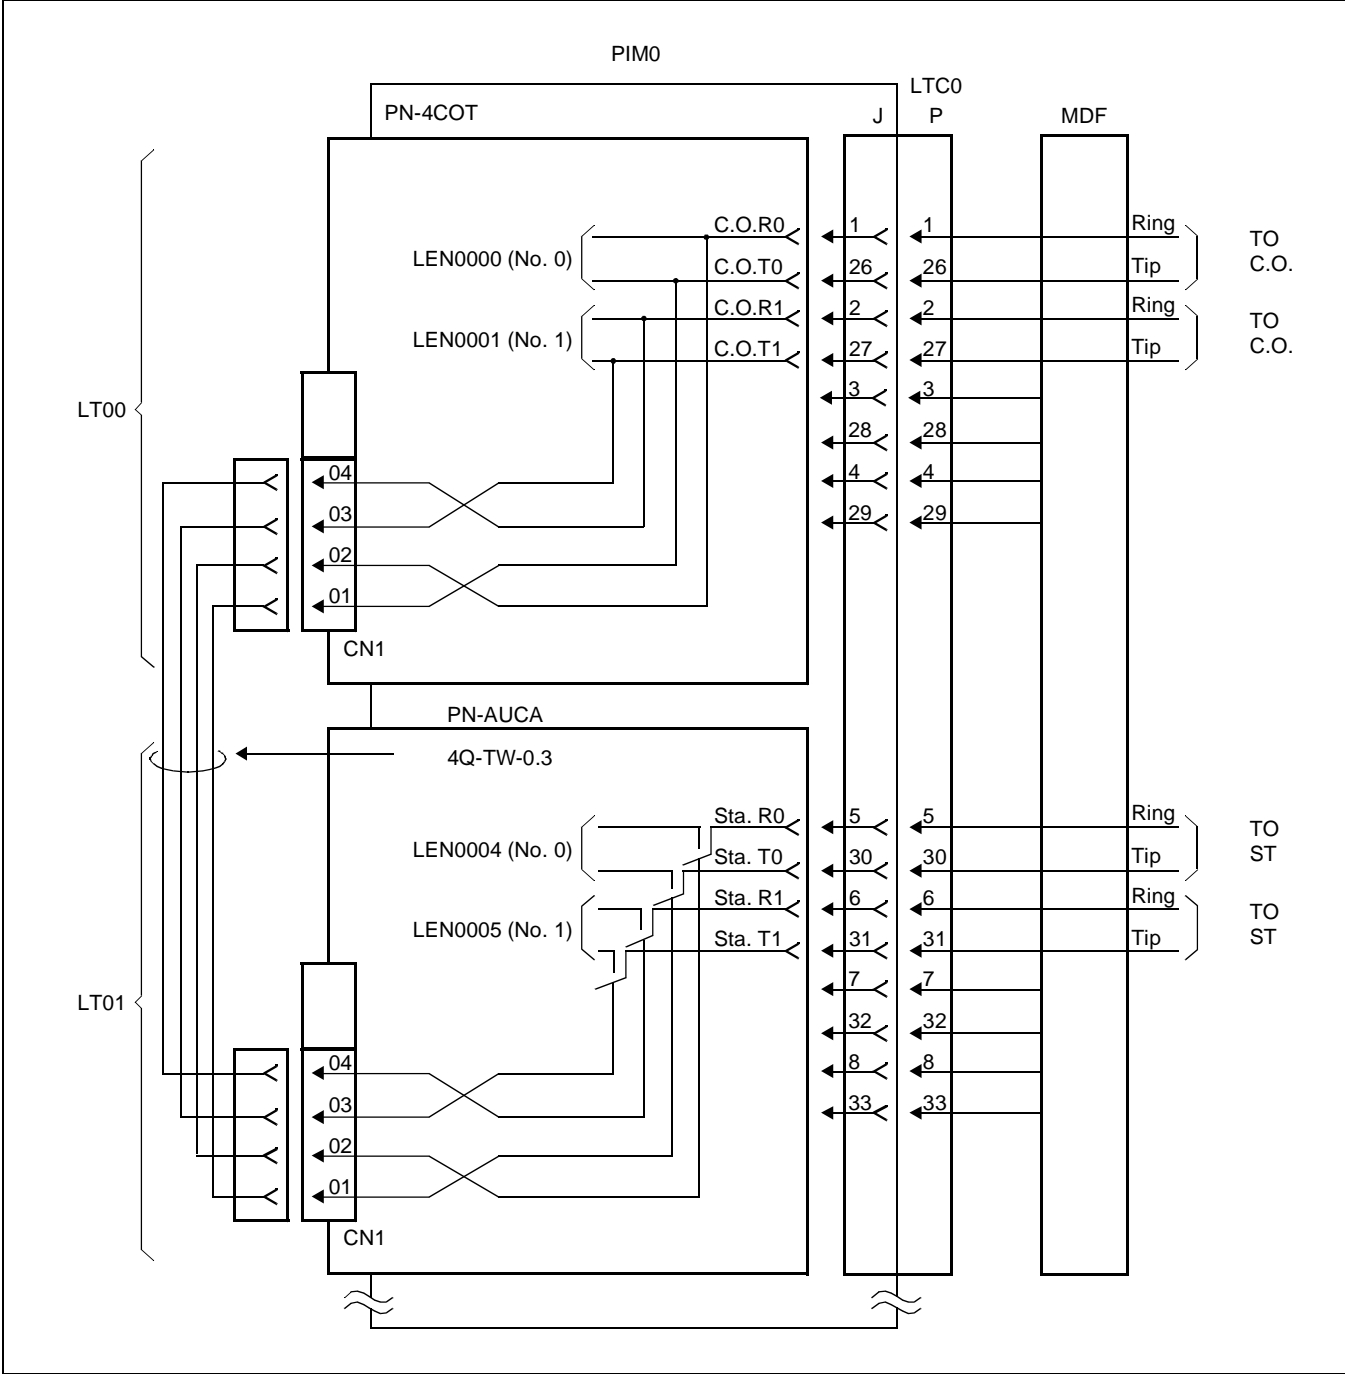

Figure 007-39 MDF Cross Connection for the PFT (PN-AUCA) (1 of 2)
- The MDF cross connection for a PFT (PN-AUCA) is shown in Figure 007-39.